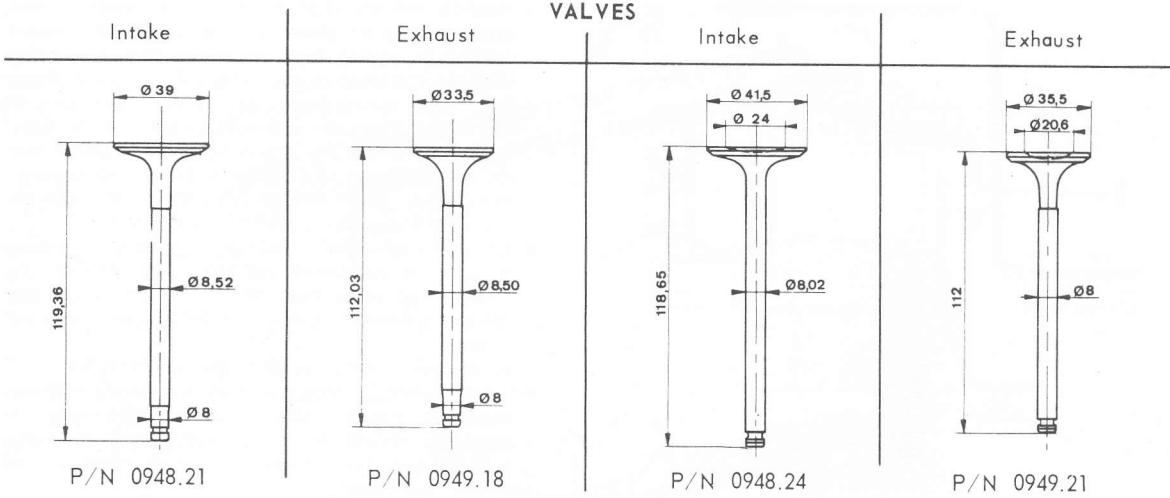

FIG 1:10 Valve dimensions
- 5 The rocker gear shown in FIG 1:11 is made of two shafts resting on five supports common to both shafts. The rocker arm supports Nos. 2 and 4 are interchangeable. It is essential when reassembling the rocker shafts that the oil holes should be turned inwards. The rockers are made of forged steel with hardened tips. They are held by eight identical springs with a free length of 46 mm and are of two identical types: Type number 1 (see FIG 1:11), for 2 and 4